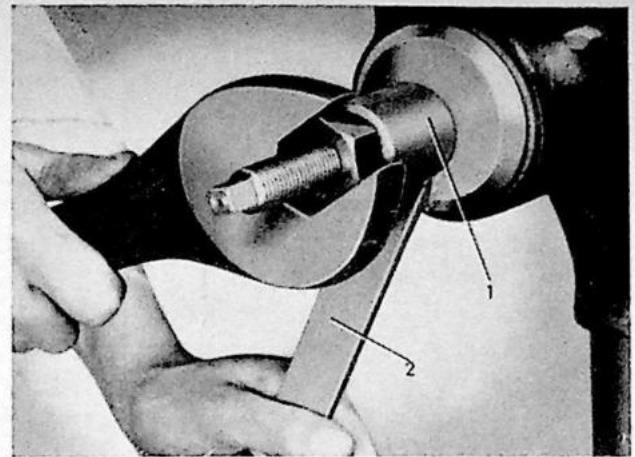

Fig. 34. Fitting pinion.
4. Insert the pinion into the housing and place on the same number of shims (24) which were there when disassembling, the front pinion bearing (23) and washer (17). Fit wrench SVO 2208 and press tool SVO 1845 on the front end of the pinion and tighten in the pinion, see fig. 34.